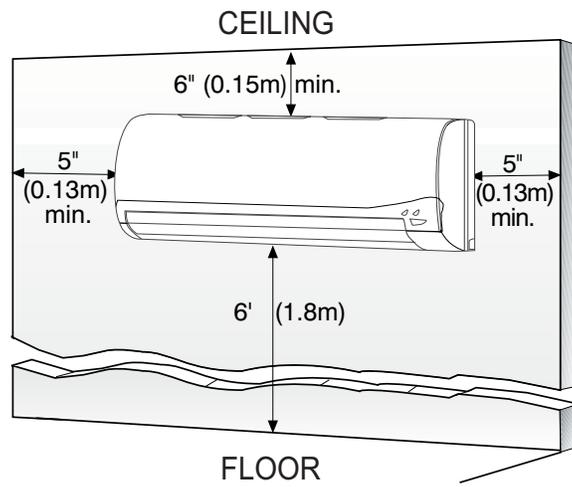

Fig. 22 – High Wall Clearance
- A location with the appropriate clearances (see Fig. 22).